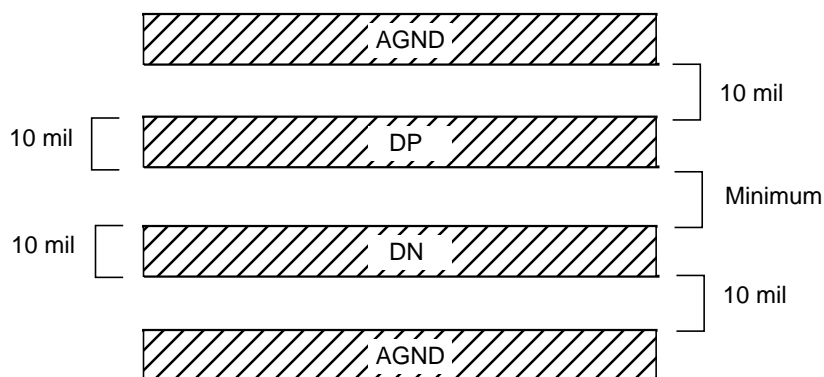

Figure 65. DP and DN, PCB Traces
- Connect guard traces to AGND on either side of the DP and DN traces (Figure 65). An additional AGND plane should be placed "beneath" these traces. With guard traces and AGND plane in place, routing near high-voltage traces is no longer a problem.
- Use wide traces. Narrow ones are more inductive and tend to pick up radiated noise. The 10 mil widths and spacings recommended in Figure 65 are not absolutely necessary (as they offer only a minor improvement in leakage and noise), but try to use them where practical.